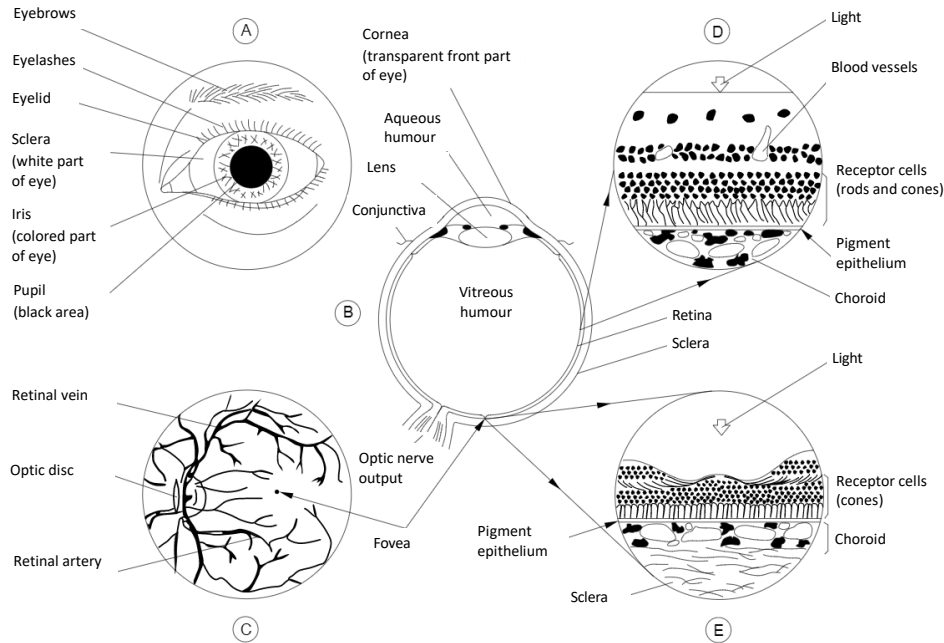

Fig. 4-2 – Physiology of the human eye
Section (A) of Fig. 4-2 displays the external structure of the left eye.
Section (D) displays the structure of the retina as seen in the section of its surface shown in Fig. 4-2 (B) but enlarged a few hundred times from its natural size. The retina consists of a series of nervous cell layers which cover the photosensitive cells: the cones and rods; in other words, light arriving on the retinal surface must move through the nervous cell layers before reaching the photosensitive cells. Beneath the layer of cones and rods is a layer known as pigment epithelium which contains a black-darkish melanin pigment; under this is a thin layer of blood vessels, the choriocapillaris. The last absorbent layer is the choroid, which contains both pigment cells and blood vessels.
Fig. 4-2 features a brief description of the anatomy of the eye. The eye is particularly well-suited to receiving and transmitting optical radiation.